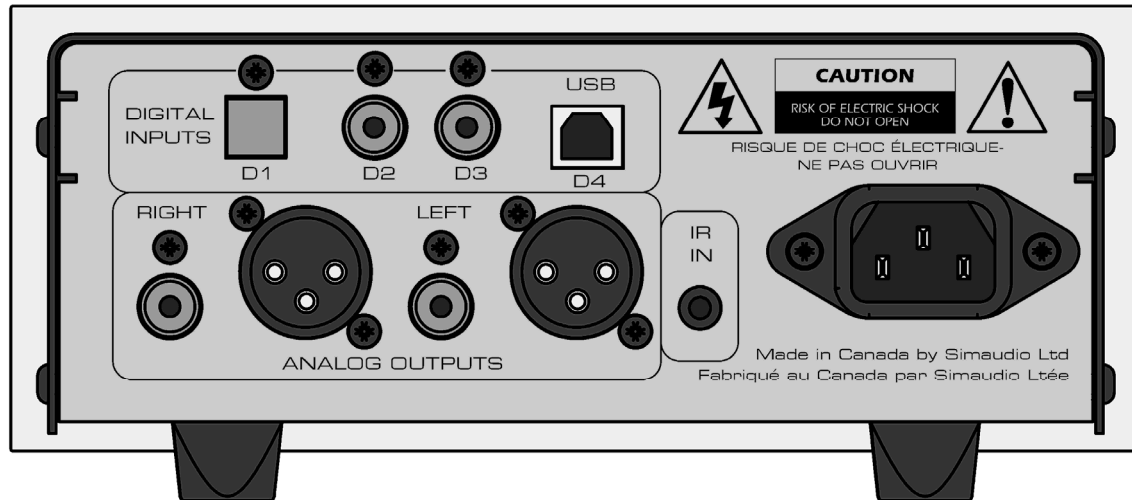

Figure 2: MOON 300 D Rear panel
The rear panel will look similar to Figure 2 (above). The top left section has four (4) digital inputs – “D1” is an optical Toslink connector and is intended for use with devices equipped with a digital Toslink output such as a DVD player or digital satellite receiver; Both “D2” and “D3” are S/PDIF on a coaxial RCA connector and are meant to be used with devices equipped with an S/PDIF output such as music servers and disc transports. note: you should use a 75Ω digital audio cable terminated with RCA connectors to make an S/PDIF connection. “D4” uses a USB (type-B) connector and is intended for use with a computer.